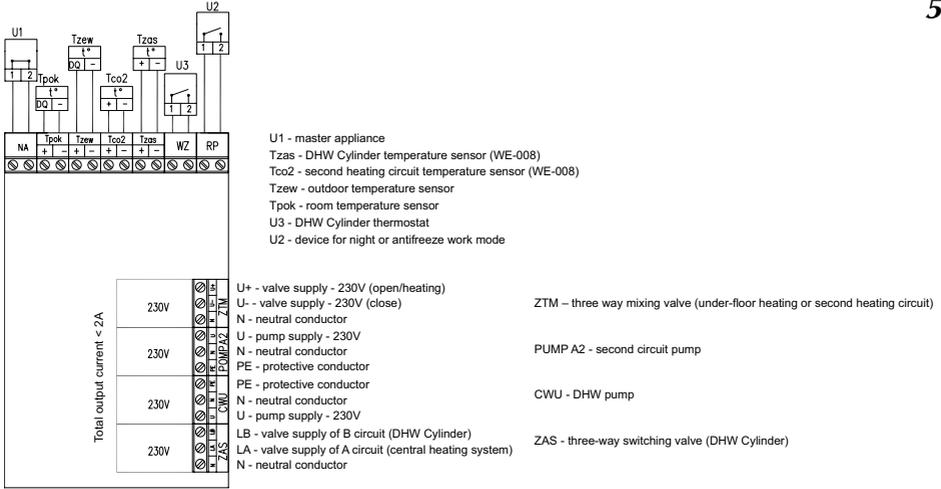

Fig.5 Connecting external appliances to the ZIO board
- close the NA entry on ZIO board (see fig.5),
A number of other appliances or necessary sensors (fig. 5) can be connected to the boiler according to the individual requirements. The temperature sensors should be connected using a LIYY 2x0,14 or similar type of wire. Pay special attention to the sensors ending, incorrect wiring may result in short circuit. The connecting wire lengths must be limited. A long wire may cause interference and faulty sensor operation. The wires must not be run in the same conduit with (or too close to) electrical wiring, and must not be wrapped around any other wires or cables. The sensor location is essential for its proper functioning. Outdoor temperature sensor should be installed in the coolest place in the building (north building side), relatively far away from the heat source (e.g. windows that can be opened, ventilation ducts, chimneys and other heated surfaces). Do not install the outdoor sensor in the place exposed to direct sunshine. Indoor temperature sensor must be located inside the building, in the most commonly used room, relatively far away from windows, radiators, doors and other places that may have affect on correct temperature measuring. The indoor temperature sensor is optional accessory. For more information about sensor see page 19 - „Room temperature sensor“.
A number of other appliances or necessary sensors (fig. 5) can be connected to the boiler according to the individual requirements. The temperature sensors should be connected using a LIYY 2x0,14 or similar type of wire. Pay special attention to the sensors ending, incorrect wiring may result in short circuit. The connecting wire lengths must be limited. A long wire may cause interference and faulty sensor operation. The wires must not be run in the same conduit with (or too close to) electrical wiring, and must not be wrapped around any other wires or cables. The sensor location is essential for its proper functioning. Outdoor temperature sensor should be installed in the coolest place in the building (north building side), relatively far away from heat source (e.g. windows that can be opened, ventilation ducts, chimneys and other heated surfaces). Do not install the outdoor sensor in the place exposed to direct sunshine. Indoor temperature sensor must be located inside the building, in the most commonly used room, relatively far away from windows, radiators, doors and other places that may have affect on correct temperature measuring. The indoor temperature sensor is optional accessory. For more information about sensor see page 19 - „Room temperature sensor“.
Master appliance – you can limit the boiler electricity consumption by connecting the master appliance (e.g. instantaneous water heater) – see fig.5. The master appliance must be equipped with the relay output. The output should be connected to the NA entry in the ZIO board by using LIYY 2 x 0,14 or similar type of wire.
- b) cylinder temperature sensor (WE-008 offer by Kospel S.A.- optional equipment) Set the „Extended Menu” for option a or b. For thermostat contacts and cylinder sensor connection details see fig.5.
The boiler is able to control DHW pump. The pump operation can be set to meet the individual needs (24hours program). The pump should be connected to ZIO board as shown in fig.5 (page 8). The pump is supplied with 230V.
You can connect number of boilers to increase power. The maximum number of slave unit (ECKO.T) in cascade is 8. The slave unit must be equipped with a special controller to enable cascade connection. For hydraulic connection details see fig.5.